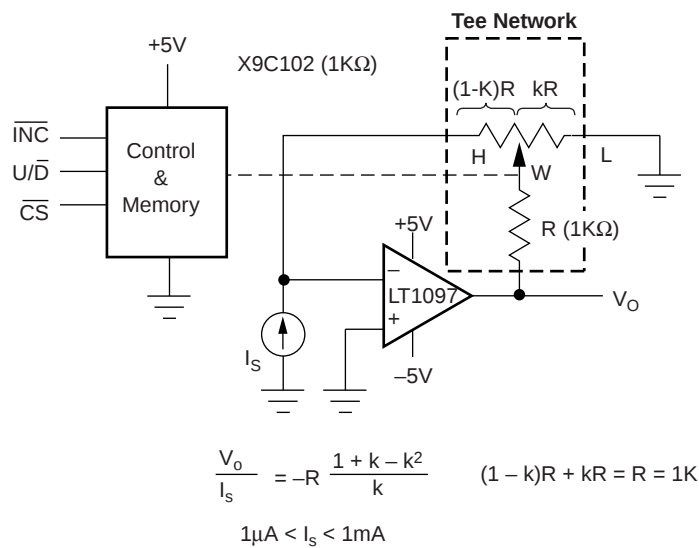

FIGURE 12. I TO V CONVERTOR
The circuit in Figure 12 is an input current (I) to output voltage (V) convertor. The feedback portion of the circuit is a tee network of resistive elements consisting of a digitally controlled potentiometer and a fixed resistor $R_1 (=R)$. The input-output relationship for the I to V convertor is